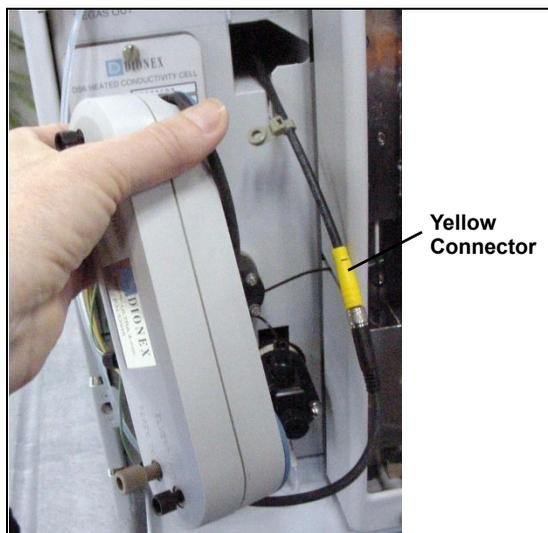

Figure 5-18. Removing the Suppressor
6. Continue pulling the suppressor out until the yellow connector on the cable inside the ICS-2000 is outside the panel (see Figure 5-18).